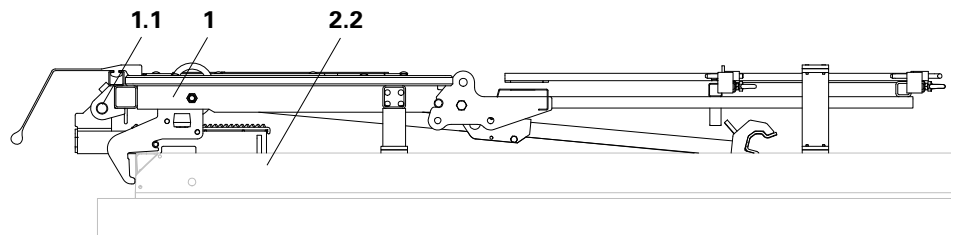

Fig. A4.03
1. Position Platform MXP (1) and secure using pins and cotter pins (1.1). (Fig. A4.03)